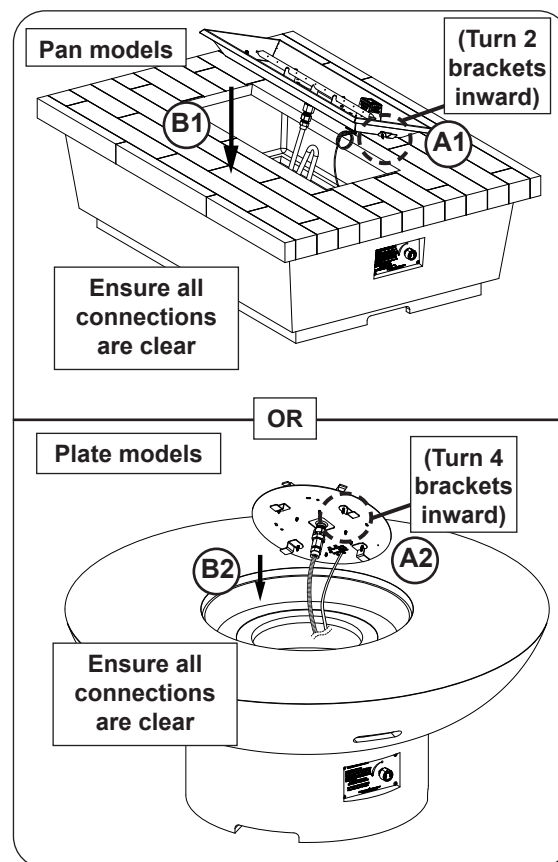

Fig. 33-2 Place burner assembly
1. Ensure that the 2-4 burner brackets are turned inward, then place the burner assembly (see Fig. 33-2).